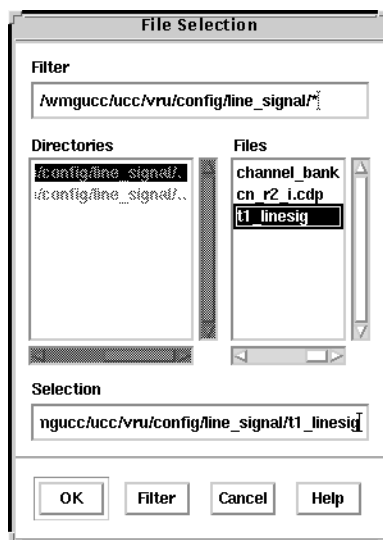

Figure 11: Line Signaling File Selection Pop-up Menu
- a. Click **File Select** to display a pop-up menu (see Figure 11).